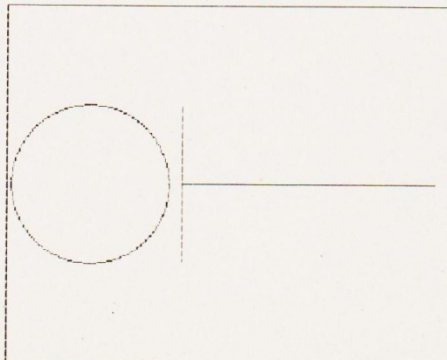

Figure 1
2. The positive X axis and a general Y axis are presented on the right, with the X axis and the centre of the circle on the same horizontal level. (See figure 1).